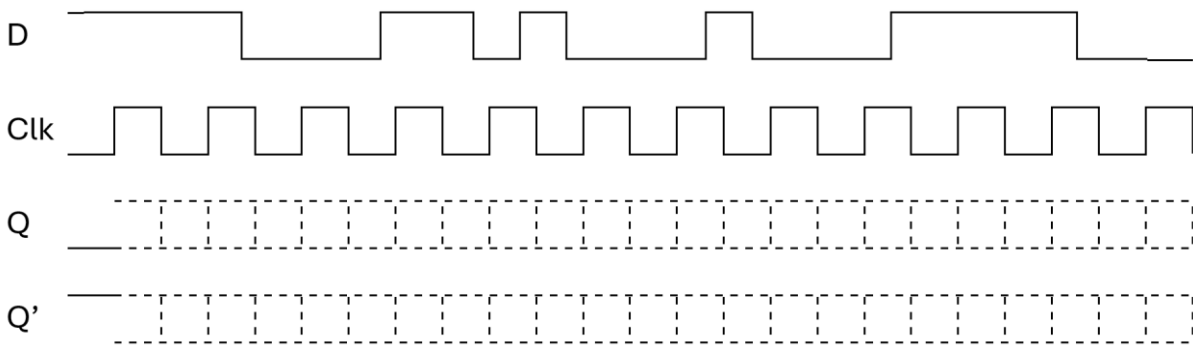

Figure 24
c) Complete Q and Q' for the input D shown in the timing diagram in Figure 24. Assume S and R are held LOW.